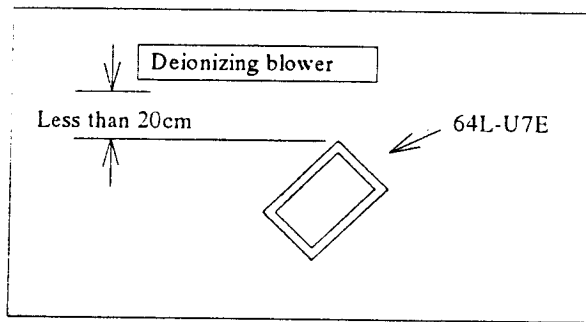

Fig. 1
- The deionizing blower should be oriented a little downward. Keep it within 20 cm of the LCD panel. (see Fig.1)